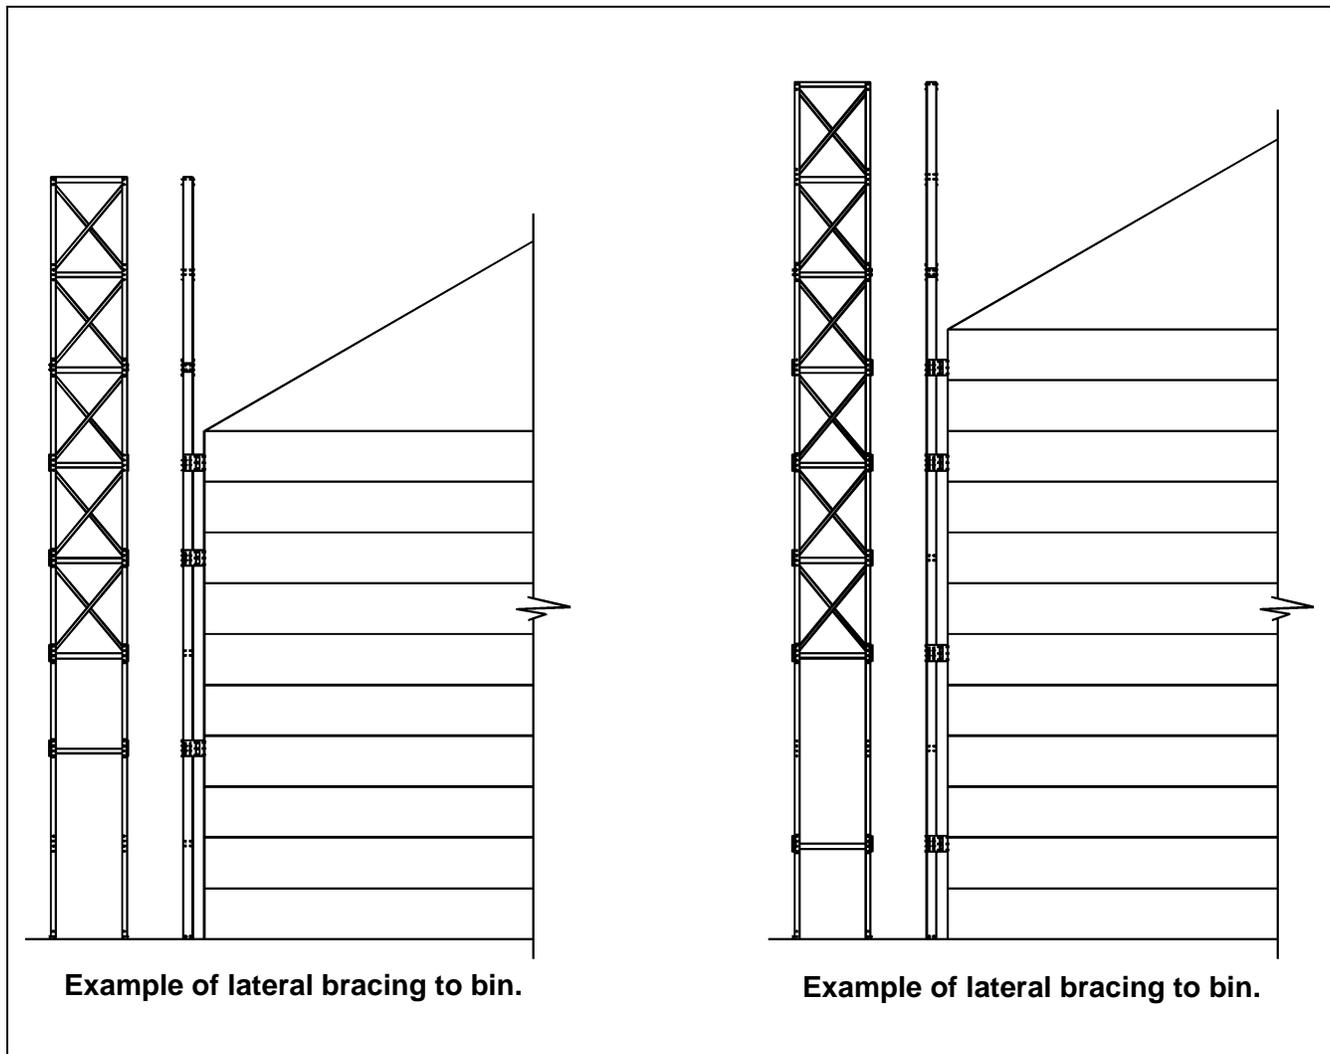

Figure 2N
- All 20'-25'-30' tall towers should all be “X”-braced, except for the lower 10' that is not “X” braced. *(See Figure 2N.)*
- All 35' and taller towers should all be “X”-braced, except for the lower 15' that is not “X”-braced. *(See Figure 2N.)*